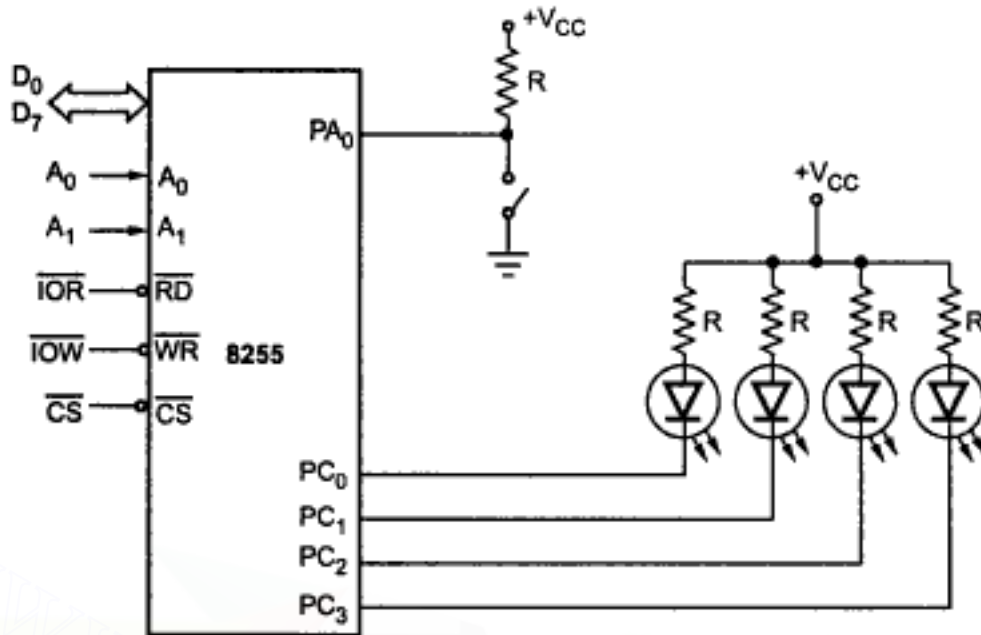

Fig. 12.20
**Hardware :** Fig. 12.20 shows the interfacing scheme. In this scheme the LEDs are connected to port C in sinking mode. Thus when port C pin is low LED is ON and when Port C pin is high LED is OFF. Port A pin 0 is used to read status of push button switch.